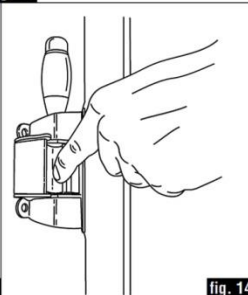

fig. 14
- Open the door with the key or the pushbutton, then manually rotate the hook to its opening position (a slight friction is felt during this operation, then a final "click" is heard) (fig. 14).
- To return to "Automatic Opening" (A) carefully follow the instructions below: